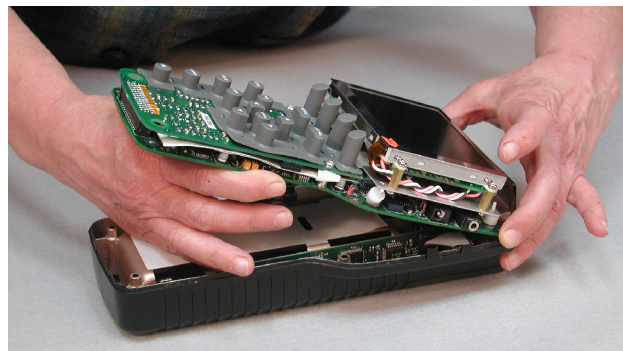

Figure 4: Remove assembly as one piece
2. Slide the thumb and forefinger of the same hand along the edges of the bottom board and toward the center of the assembly (see Figure 4). With the other hand, grasp the top board behind the LCD Display unit and gently lift upward until the assembly is level.